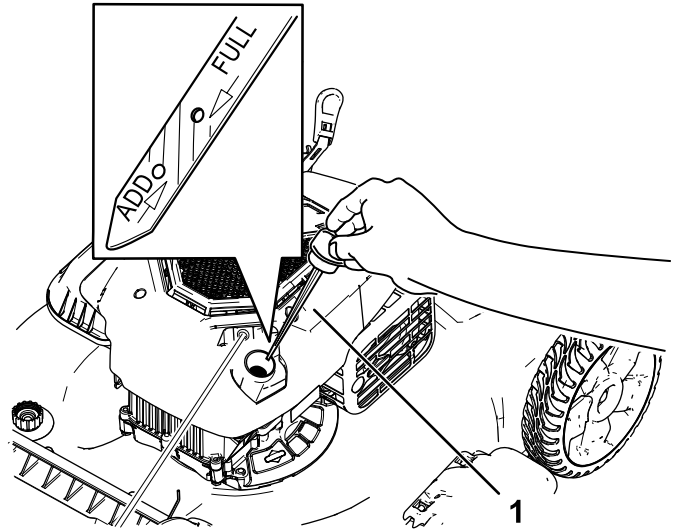

Figure 12
2. Remove the dipstick by rotating the cap counterclockwise and pulling it out (Figure 12).
5. Read the oil level on the dipstick (Figure 12).
- If the oil level on the dipstick is too low (Figure 12), carefully pour a small amount of SAE 30 or SAE 10W-30 detergent oil into the oil-fill tube, wait 3 minutes, and repeat steps 3 through 5 until the oil on the dipstick is at the correct level. For the oil type, refer to 3 Filling the Engine with Oil (page 6).
- If the oil level on the dipstick is too high (Figure 12), drain the excess oil until the oil on the dipstick is at the correct level; refer to Changing the Engine Oil (page 18).